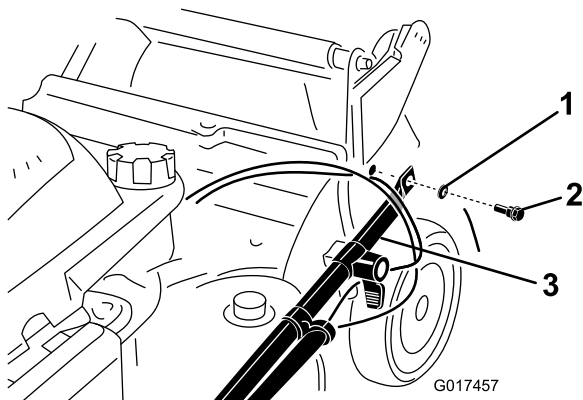

Figure 3
2. Attach the handle ends to the machine housing with 2 washers and 2 handle bolts (Figure 3), **but do not tighten the handle bolts.**
Important: Route the cables to the *outside* of the handle (Figure 3).